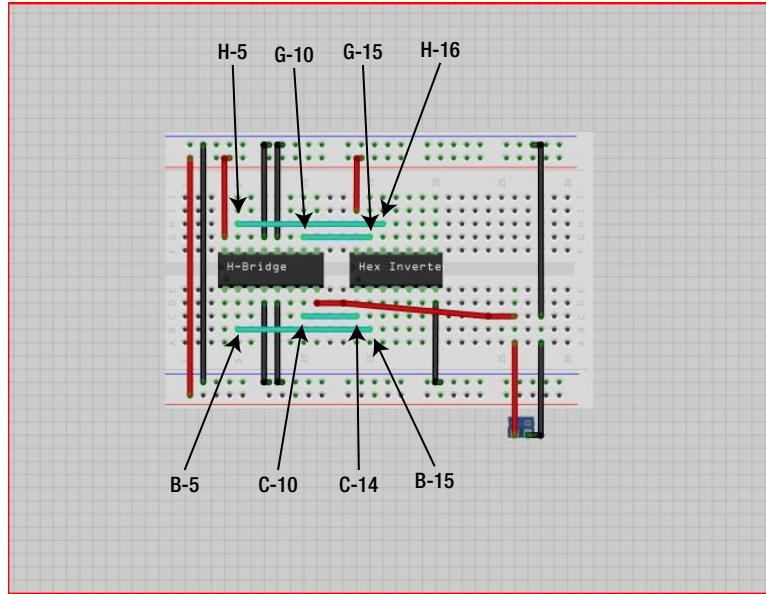

Figure 31-11. Attach the Hex inverter to the H-bridge
11. Now connect the hex inverter to the H-bridge. We've used green jumper wires but use what you have available. First connect B-5 to B-15; then connect C-10 to C-14. Next, connect G-10 to G-15 and H-5 to H-16. Figure 31-11 illustrates the process.